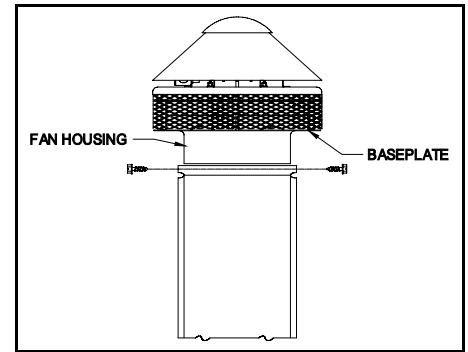

Figure 1
1. Insert the Type "C" housing directly into the vent pipe. (See Figure 1)
2. Fasten housing to vent pipe using three (3) sheet metal screws, located 120° apart.